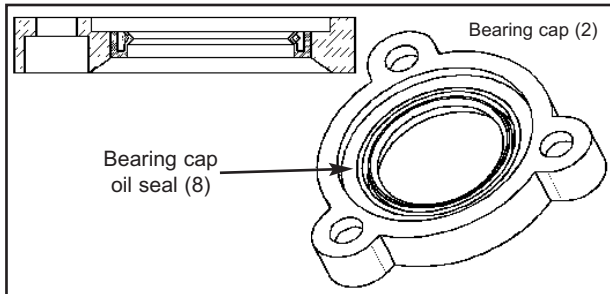

Figure 22
Lightly grease a new bearing cap oil seal (8). Using a properly sized seal punch, install the oil seal into the bearing cap with the lip up, so that it will face the bearing ; See figure 22.